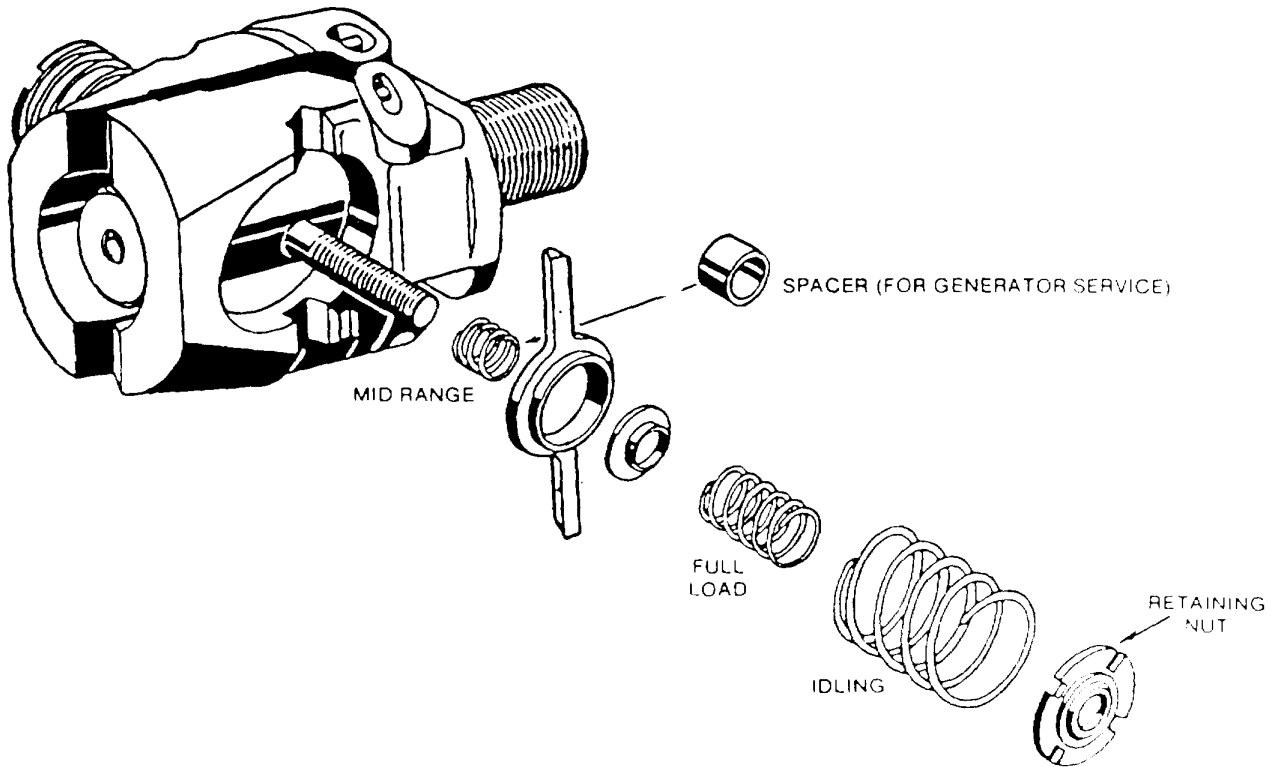

Figure A-70. Speed Adjustment
a. Maximum governor speed is set at the factory and normally requires no adjustment. Figure A-70 shows a typical governor with low, midrange and full load springs. Refer to the service parts book for alternative springs and other governor parts when special governor characteristics are required.
e. Rotate the flywheel until one of the cross slotted nuts is visible in the opening. After carefully removing the nut, remove the full load spring and fit its replacement. Replace and retighten the cross slotted nut. Turn the flywheel until the other nut is visible and repeat the above procedure. NOTE: Cross slotted nuts use a plastic locking device and require no lockwashers or other fasteners. However, **always** fit **new** cross slotted nuts any time the springs are exchanged. Finally, check your adjustment with a tachometer. Figure A-70.